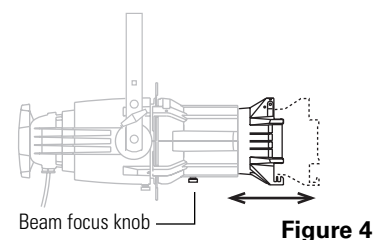

Figure 4
1. Loosen the beam focus knob located under the barrel as shown in **Figure 4**.